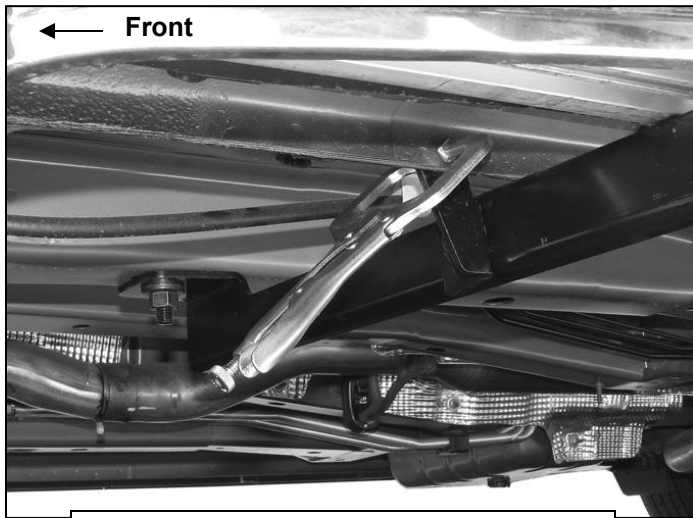

**Fig 13**
9. Carefully unwrap and select Running Board. Insert (6) 6mm T-Bolts into the slots in the end of the channels, (3 T-Bolts per slot), on the bottom of the Running Board, **(Figure 12)**. Hold the Running Board up in the approximate position and slide the T-Bolts down the slots to line up with the Brackets. Tilt the Running Board up at a slight angle to clear the slots in the Brackets. Secure the Running Board to the Brackets with (6) 6mm Flat Washers and (6) 6mm Hex Nuts, **(Figure 13)**, Do not fully tighten hardware at this time.